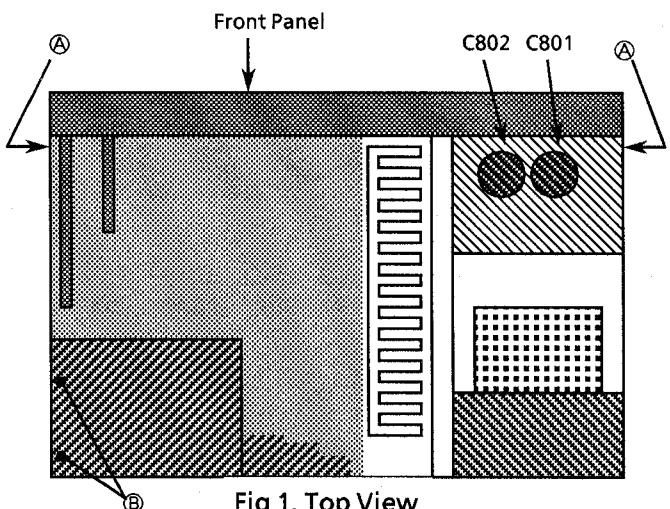
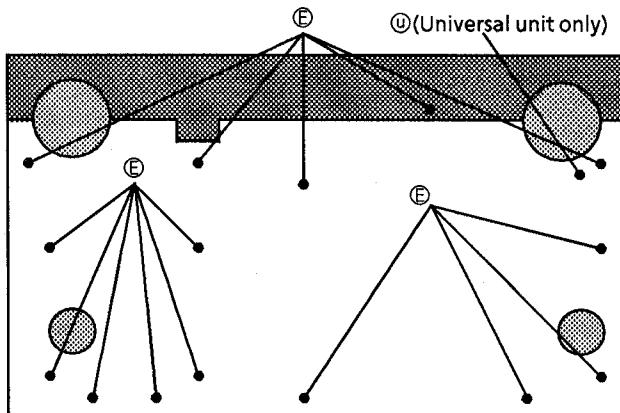

Fig 1. Top View
Fig 3. Bottom Cover
■ Removing the Bottom Plate (Fig.3)
1. Remove the 15 screws ④.
2. Remove the screw ①. (Universal unit only)
■ Removing the Front Panel (Fig.1,4)
1. Remove the 2 screws Ⓐ fastening both sides of the Front Panel, and the 4 screws ⑤ fastening bottom of the Front Panel.
■ Removing the Tuner P.C. Board (Fig.1,2)
1. Remove the 6 screws ③, ⑦ and ⑧.